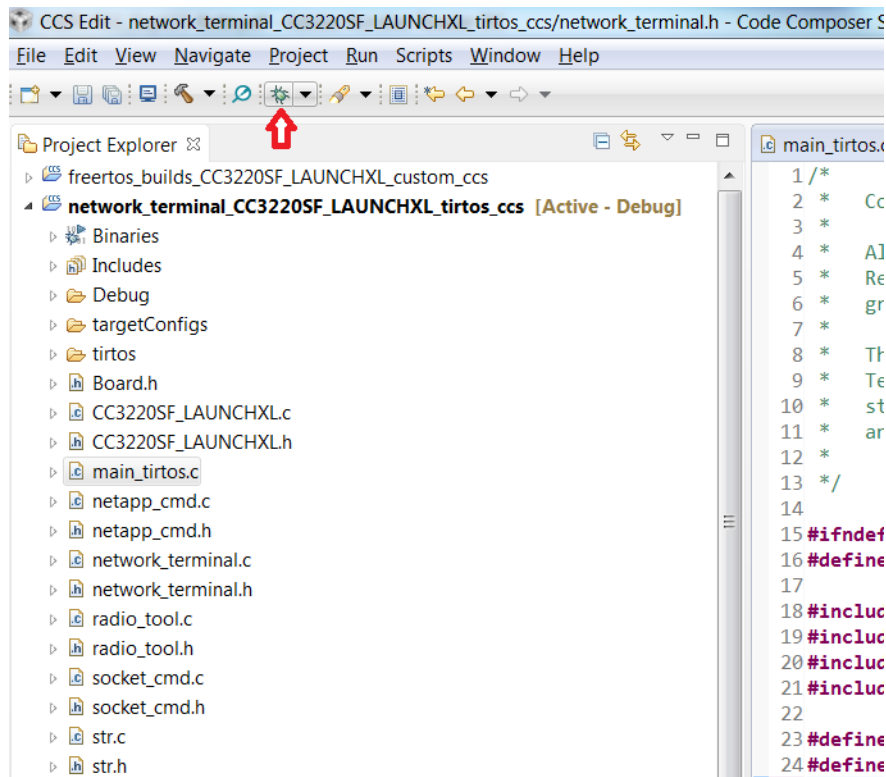

Figure 4-5. Debug Network Terminal
5. Launch application. Select the `network_terminal_CC3220SF_LAUNCHXL_tirtos_ccs` project in Project Explorer and click on the debug icon as shown in Figure 4-5 to download code to the device and begin debugging. Press F8 to begin execution.